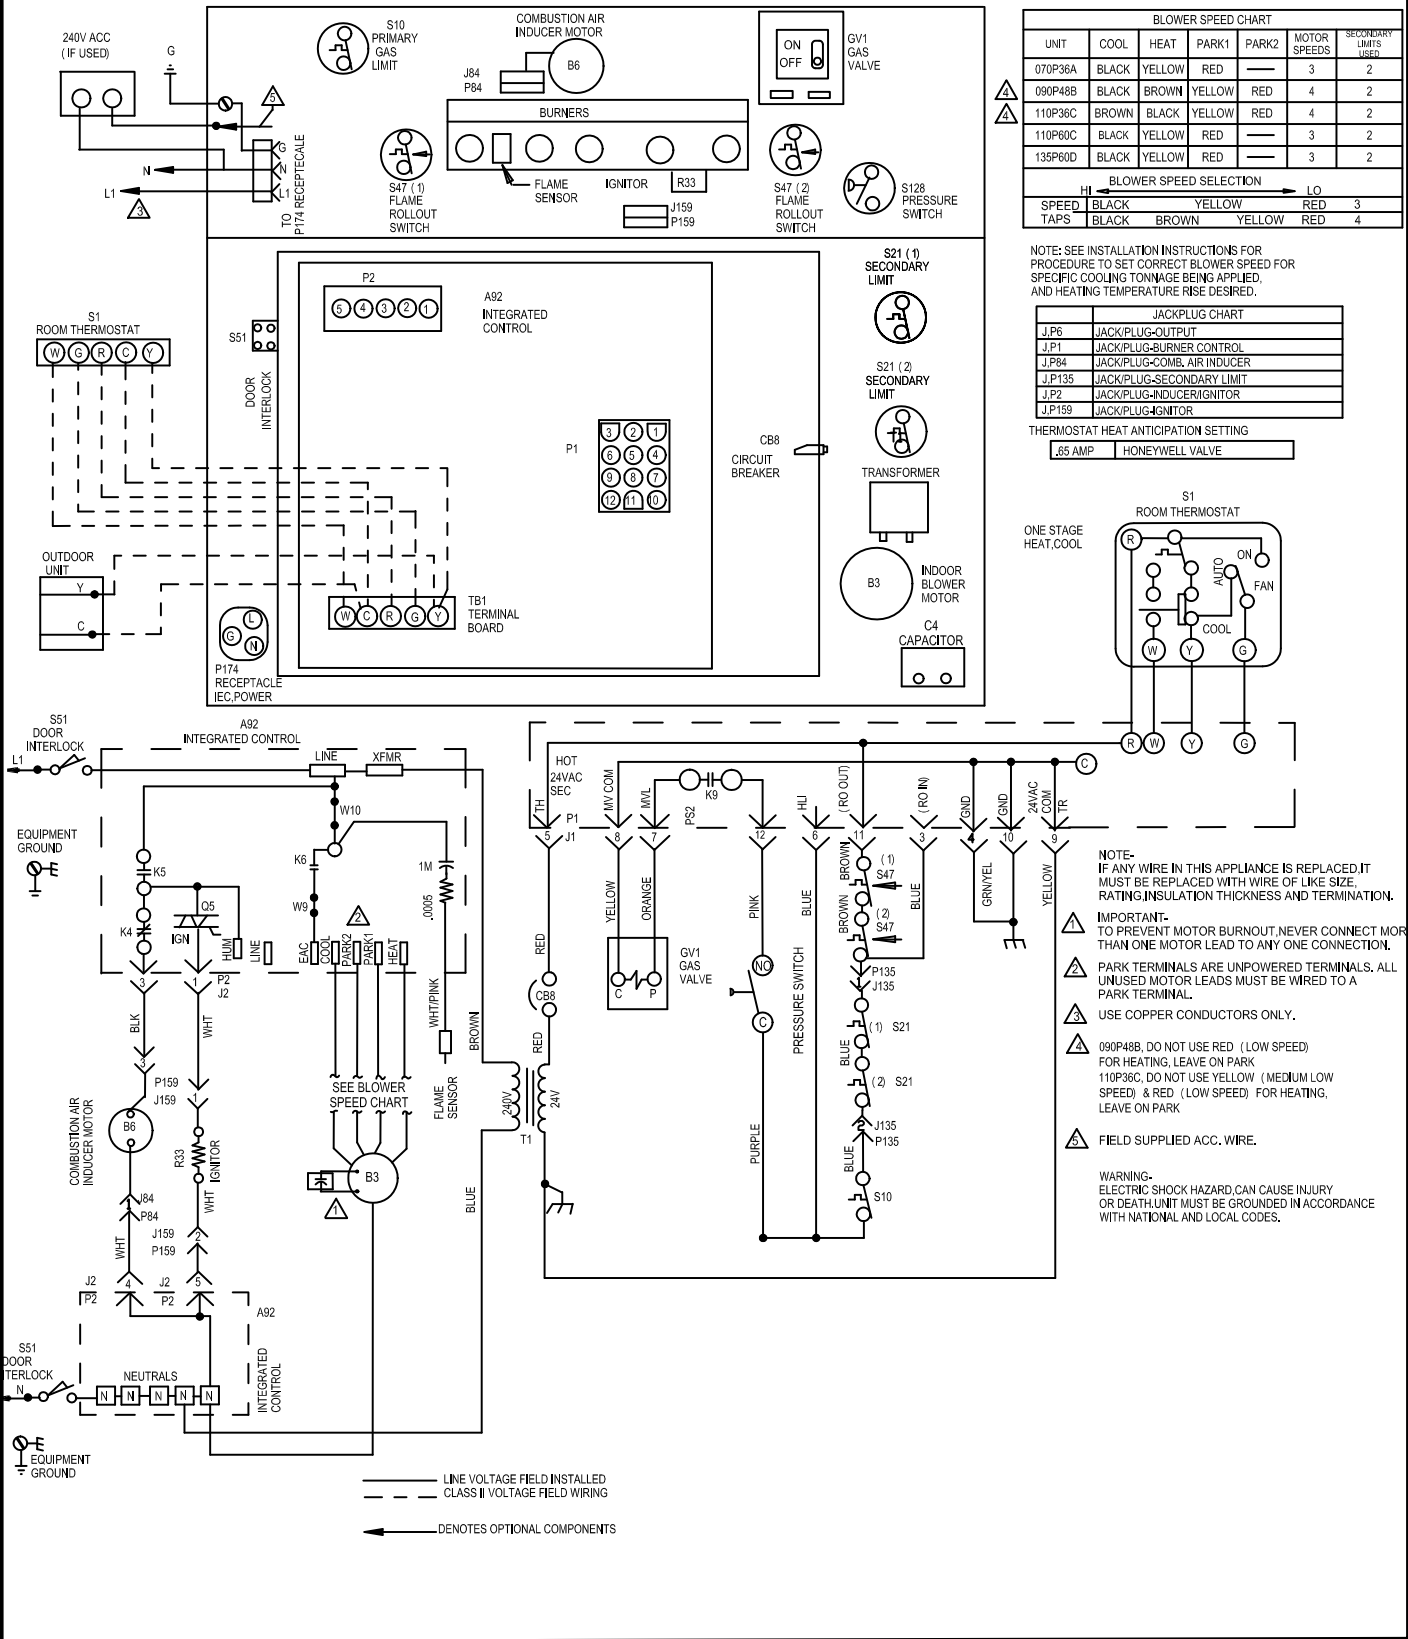

FIGURE 26
Refer to figure 26 schematic wiring diagram.
- 4 - Complete the wiring connections to the equipment. Use the provided unit wiring diagram shown in figure 26. 18-gauge wire or larger that is suitable for Class II rating for thermostat connections.
- 8 - Install the room thermostat according to the instructions provided with the thermostat. See figure 26 for thermostat designations. If the furnace is being matched with a heat pump, refer to the instruction packaged with the dual fuel thermostat.
(follow steps below or see Figure 26 for more detail)